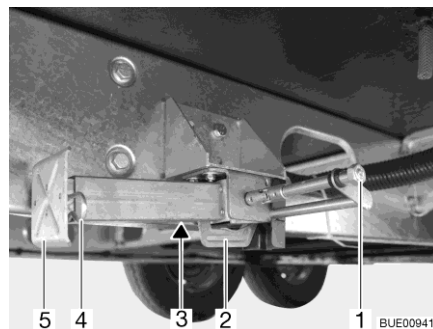

Fig. 49 Steady leg
- Place the socket spanner on the hexagonal nut (Fig. 49,1) and rotate until the steady leg is in a perpendicular downward position.
- If the length of the steady leg can be adjusted, remove the splint (Fig. 49,4) out of the support foot extension (Fig. 49,5).
- Place the socket spanner on the hexagon nut (Fig. 49,1) and rotate until the steady leg is clear of the ground.
- Push in the support foot extension (Fig. 49,5) and insert the splint (Fig. 49,4) in the drilled hole in the support foot extension.
- Rotate the hexagonal nut (Fig. 49,1) until the steady leg has swung upwards and the guide (Fig. 49,2) has reached the very end of the slot (Fig. 49,3).